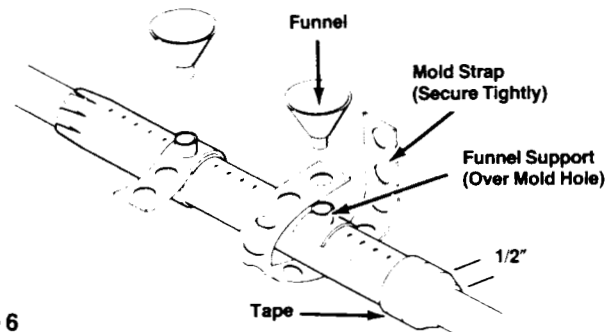

Figure 6
3. Position funnel supports over mold holes and secure tightly with mold straps. (Figure 6)
4. Starting 1/2" (12 mm) on cable jacket, apply one half-lapped layer of tape over the mold's notched ends. (Figure 6)
5. Install funnels into funnel support holes. (Figure 6)